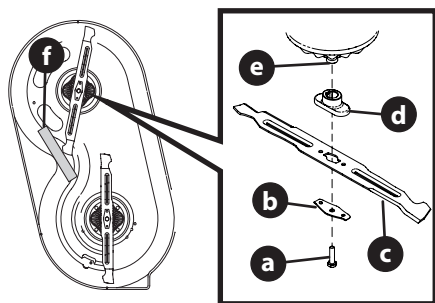

Figure 41
2. Remove bolt (a) and blade bell support (b) which hold the blade (c) and the blade adapter (d) to the motor shaft (e) (Figure 41).
NOTE: A block of wood (f) may be placed between the deck housing and the cutting edge of the blade to help in breaking loose the bolt securing the blade (Figure 41).